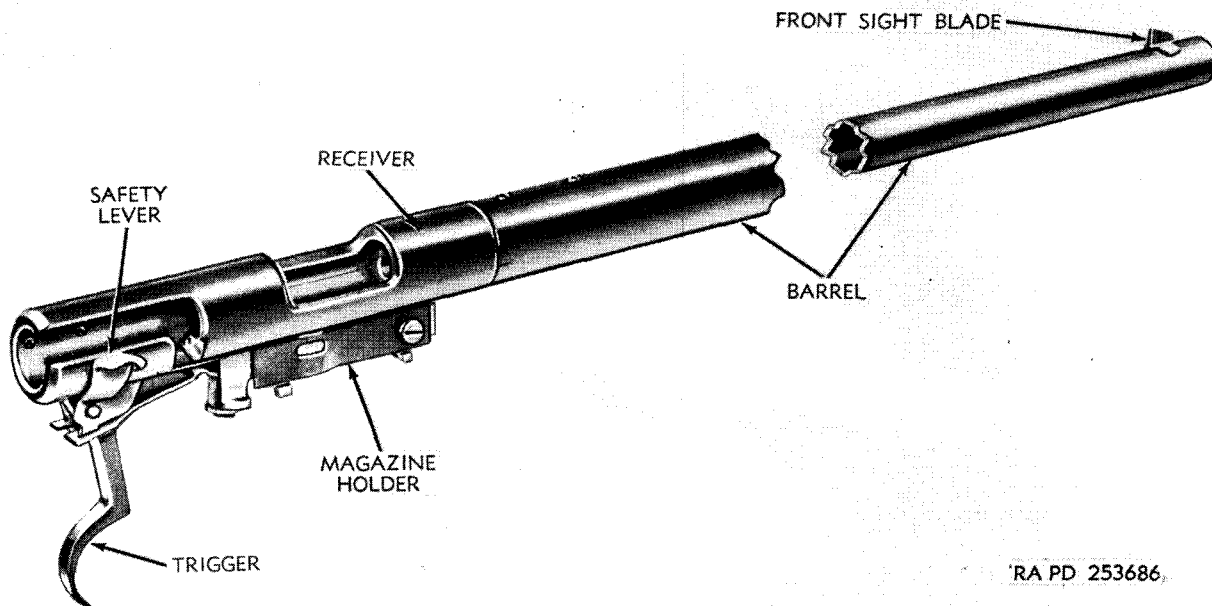

Figure 18. Barrel and receiver group (Winchester rifle M75T).
- (4) *Barrel and receiver group* (fig. 18). The short shoulder at the rear of the barrel (F) is threaded for the purpose of securing the barrel to the receiver (E). Four tapped holes, two at the rear and two in the center of the barrel, are provided for mounting a telescope sight if desired. The holes are plugged with screws (DD) when the telescope is not mounted. The breech of the barrel is recessed to receive the extractors. One dovetail is machined at the front of the barrel to receive the front sight blade (J), another dovetail on the bottom at the receiver end of the barrel secures the stock stud (EE). The rear end of the barrel is mounted to the stock (C) by a screw (FF) through the stock and into the stock stud. The center of the barrel is secured to the stock by means of the barrel band (G), band screw